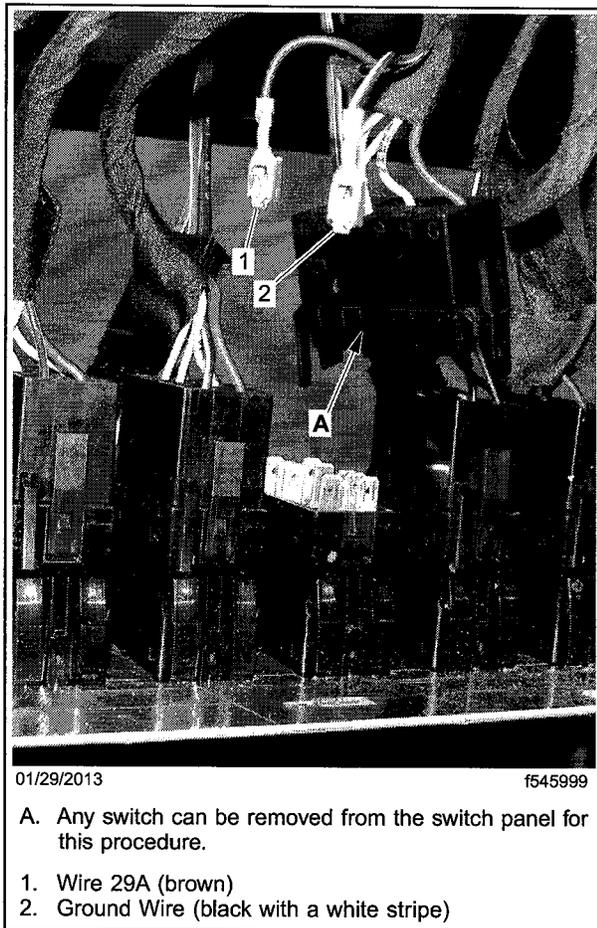

Fig. 5, Switch Removed from the SHM Panel
8. Remove the switch ground wire from cavity 9, and switch wire 29A from cavity 11. The ground wire is black with a white stripe, and wire 29A is brown. See Fig. 5.